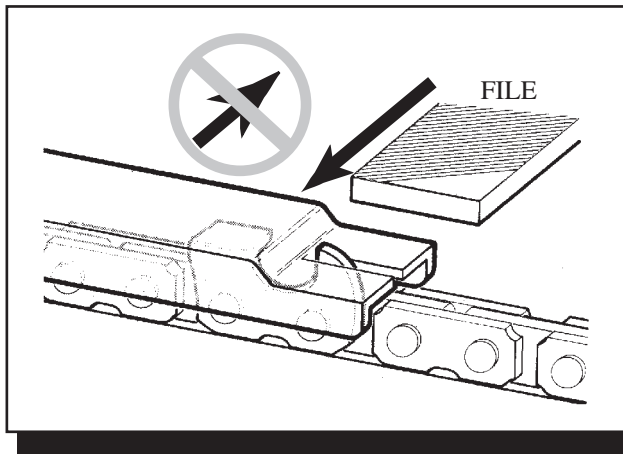

Figure 3-15—A depth gauge protrudes through the slot in the depth-gauge tool.—Oregon Maintenance and Safety Manual, permission by Blount, Inc.
**How To Set Depth Gauges**—Use a depth-gauge tool with the correct built-in setting for the chain. Place the tool on top of the chain so one depth gauge protrudes through the slot in the tool (figure 3-15).